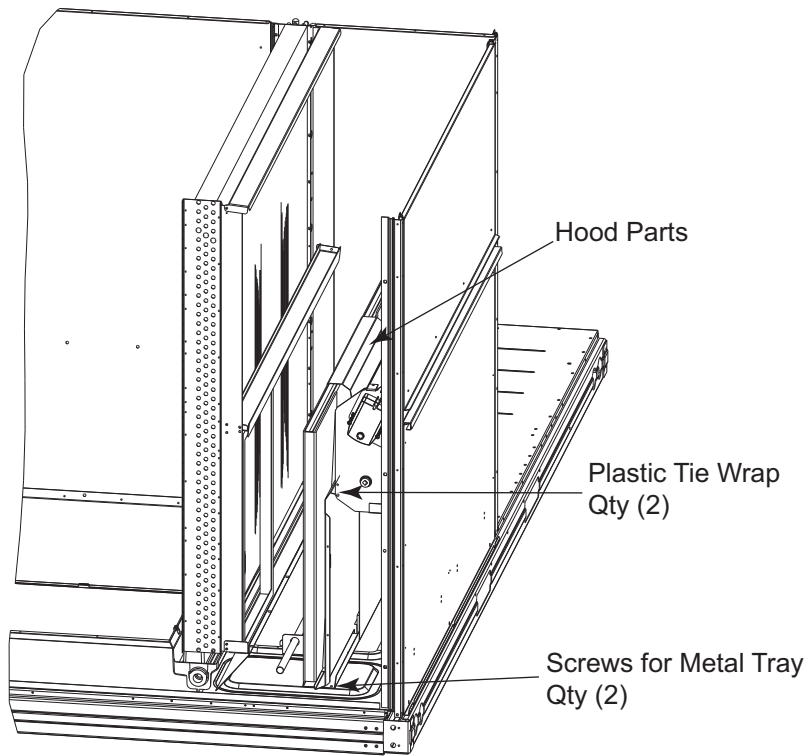

Fig. 10 - Damper Assembly
3. Locate the (2) screws holding the metal tray to the basepan and remove. In order to remove the screws, it may be necessary to remove the panel underneath the two-position damper. Remove the two screws. Locate and cut the (2) plastic tie-wraps securing the assembly to the damper. (See Fig. 10.) Be careful to not damage any wiring or cut tie-wraps securing any wiring.